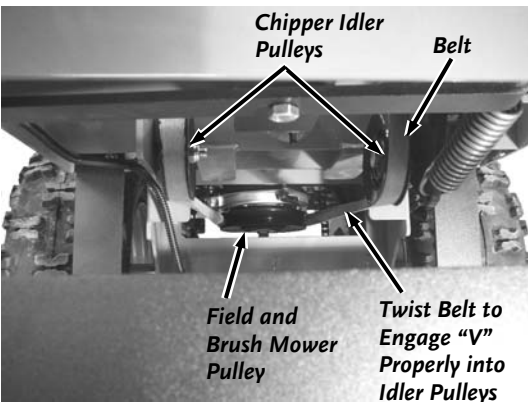
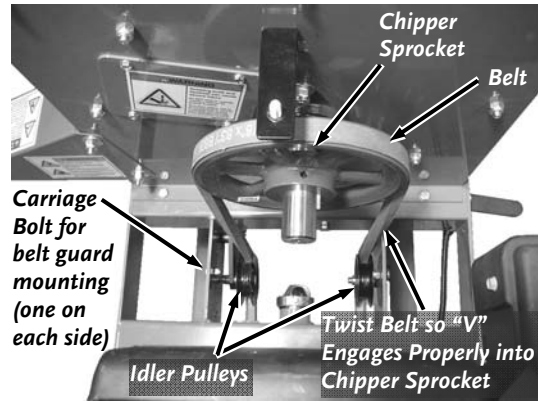

Figure 15
Figure 16
5. Position the Belt onto the DR Field and Brush Mower Engine Pulley (**Figure 15**) and then route it over the two Idler Pulleys and up around the Chipper Pulley (**Figure 16**).